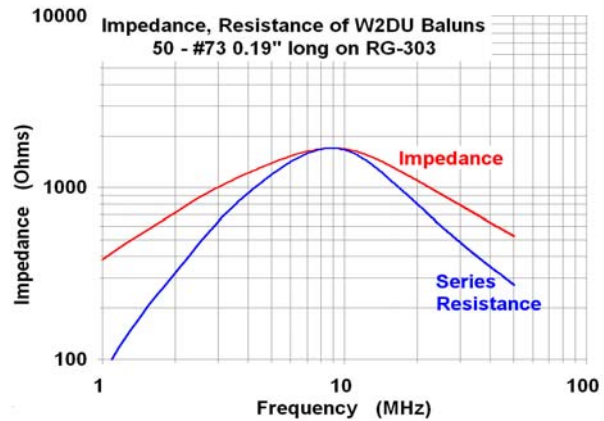

Fig 34 – A W2DU Balun (Measured Data)
through a string of lossy ferrite cores to form a common mode choke, a design which has come to be known as the W2DU balun. Maxwell's design consists of 50 Fair-Rite 2673002402 beads, 0.19" long and just big enough to fit over RG-303 coax (Fig 34). One of his experimental models used 300 beads, and measured 4500 +j3800 ohms at 4 MHz. Notice that his choke is resonant at about 8.5 MHz because that is where his #73 beads are resonant. **A W2DU balun will be most effective on 40M, 30M, and 20M.**
- ♦ 1) We are stuck with the resonant frequency of the bead used in the string. If the bead is inductive, the choke will be inductive, and nearly all commonly available beads are inductive in the HF spectrum. The exception is Fair-Rite #73 (see Fig 34), and the largest cable that fits through the largest #73 bead is RG-303.
- ♦ 2) As Figs 34 and 35 show, it takes a very large number of beads to achieve even modest choking impedance. The usual compromise is using too few beads, which results in insufficient choking impedance. The resulting common mode current can overheat the balun, often to the point of failure, and couple RX noise.